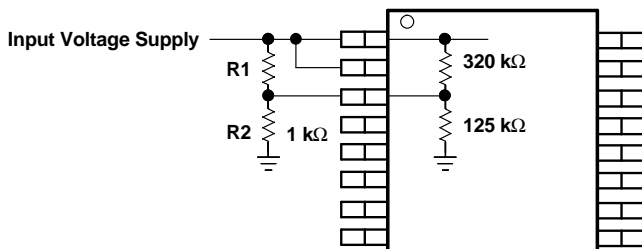

Figure 1. Circuit Using External UVLO Function
The undervoltage lockout (UVLO) system has an internal voltage divider from VIN to AGND. The defaults for the start/stop values are labeled VIN and given in Table 1. The internal UVLO threshold can be overridden by placing an external resistor divider from VIN to ground. The internal divider values are approximately 320 kΩ for the high side resistor and 125 kΩ for the low side resistor. The divider ratio (and therefore the default start/stop values) is quite accurate, but the absolute values of the internal resistors may vary as much as 15%. If high accuracy is required for an externally adjusted UVLO threshold, select lower value external resistors to set the UVLO threshold. Using a 1-kΩ resistor for the low side resistor R2 (see Figure 1) is recommended. Under no circumstances should the UVLO pin be connected directly to VIN.
For applications which require an undervoltage lock out (UVLO) threshold greater than 4.49 V, external resistors may be implemented, see Figure 1, to adjust the start voltage threshold. For example, an application needing an UVLO start voltage of approximately 7.8 V using the equation (1), R1 is calculated to the nearest standard resistor value of 5.36 kΩ. Using Equation 2, the input voltage stop threshold is calculated as 6.48 V.